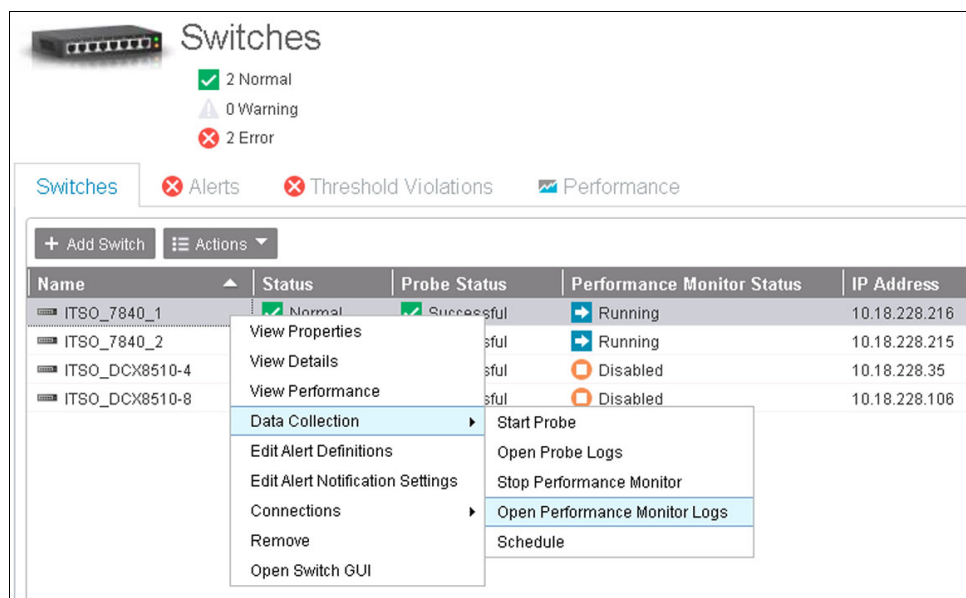

Figure 6-23 Opening performance monitor logs
2. In the Switches view, right-click the switch you are interested in, then select **Data Collection** and then **Open Performance Monitor Logs**, as shown in Figure 6-23.